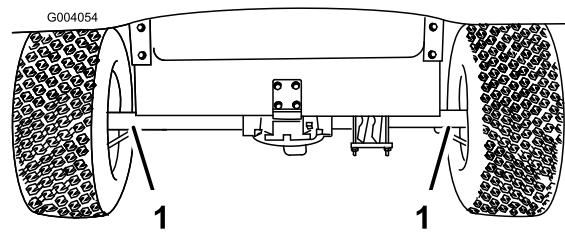
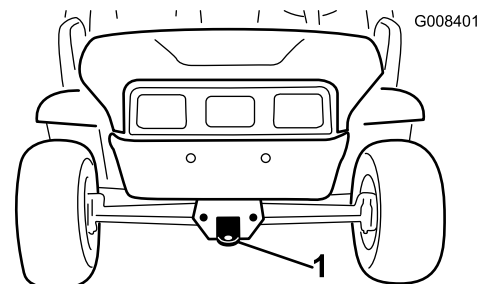

Figure 21
Figure 22
For moving the machine long distances, a trailer should be used. Make sure that the machine is secured to the trailer. Refer to Figure 21 and Figure 22 for the location of the tie-down points.
2. Affix a tow line to the tongue on the front of the frame (Figure 22).